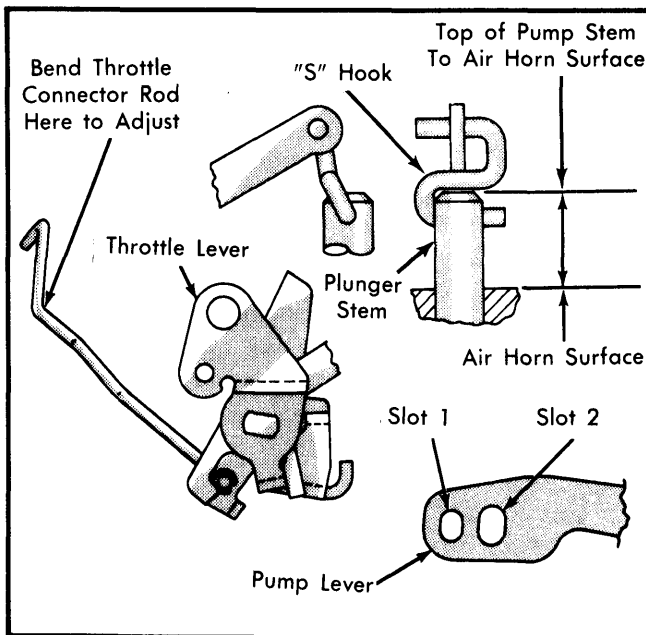

Fig. 13 Adjusting Accelerator Pump Stroke (First and Second Stage)
2) If measurement is not to specification, adjust plunger height by bending throttle connector rod. See Fig. 13.